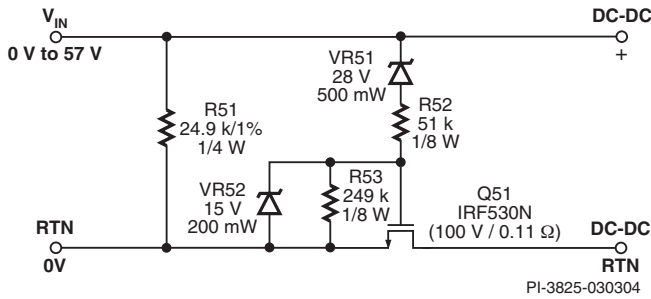

Figure 2. PoE Interface Circuit—Using a MOSFET Pass-Switch.
- MOSFET pass-switch: 97% efficient (Figures 2 and 5)
An alternative MOSFET-based third phase solution (Figure 2) connects the input to the power supply at input voltages above approximately 30 VDC ($28\text{ V} + V_{G(Q51)}$). Resistor R53 prevents turn-on under other conditions and Zener diode VR52 limits the Q51 gate-source voltage when the input voltage is high (>42 VDC). In the last phase of start up,